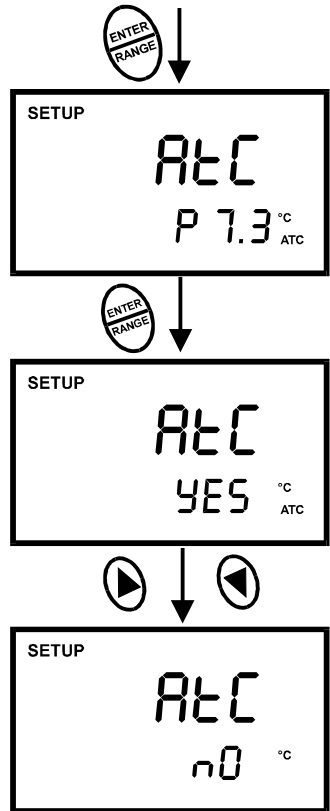

Figure 18 - Turning ATC Feature ON or OFF
- 5) Press the ▲ or ▼ keys to select the Automatic Temperature Compensation feature on (ATC on) or off (ATC off). See Figure 18.